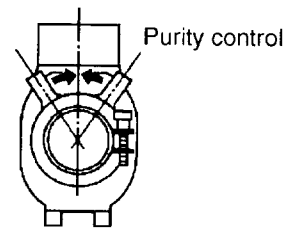

Fig. 3-2
2. Position neck ass'y as shown in Fig. 3-2.